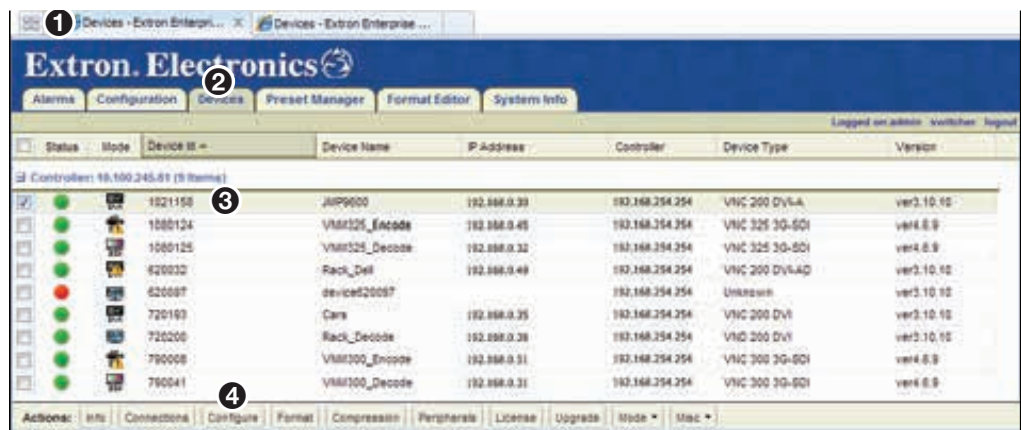

Figure 144. Devices Page
3. **Click the left tab** (see figure 144, ①). Select the **Devices** tab (②) and choose a VN-Matrix 2xx series decoder from the device list (③). A checkmark appears in the checkbox to the left of the decoder row.
4. From the **Actions** menu bar located at the bottom of the **Devices** page, click **Configure** (see figure 144, ④ on the previous page).